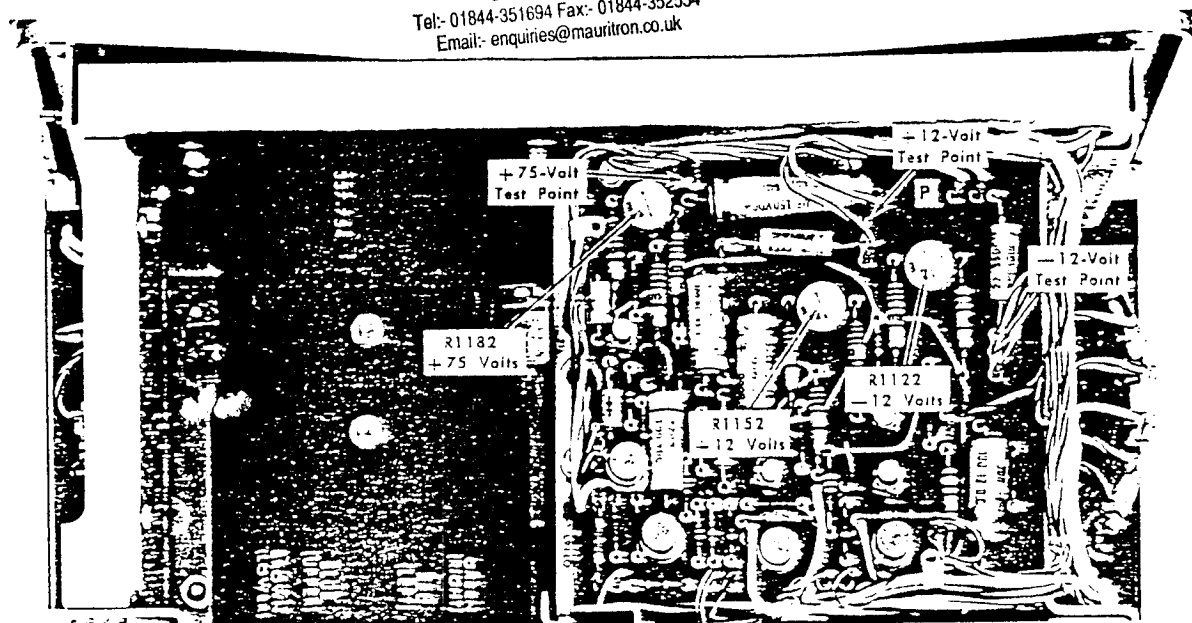

Fig. 6-5. Low-voltage test points and adjustment (Low-Voltage Regulator board).
- b. Connect the precision dc voltmeter from the —12-volt test point (pin connector 'G', Low-Voltage Regulator board; see Fig. 6-5) to chassis ground.
- d. Adjust— —12 Volts adjustment, R1122 (see Fig. 6-5), for —12 volts.
- e. Adjust— $-12$  Volts adjustment, R1152 (see Fig. 6-5), for  $-1$  volt.
- i. Connect the precision dc voltmeter from the  $-12$ -volt test point (pin connector 'C', Low-Voltage Regulator board; see Fig. 6-5) to chassis ground.
- b. Connect the precision dc voltmeter from the  $+75$ -volt test point (pin connector 'B', Low-Voltage Regulator board; see Fig. 6-5) to chassis ground.
- b. Adjust— $+75$  Volts adjustment, R1182 (see Fig. 6-5), for  $-75$  volts.
230-volts nominal). Power-supply test points are shown in Fig. 6-5. Fig. 6-8 shows typical test oscilloscope display of ripple.